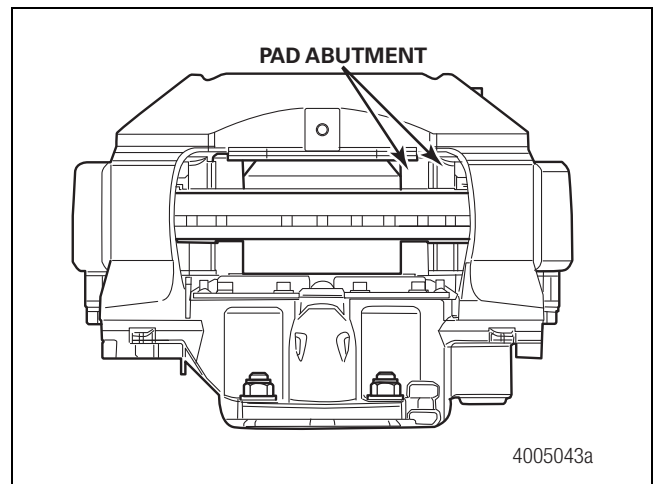

Figure 4.9
7. Inspect the carrier for signs of damage or wear. Pay particular attention to the pad abutments. Figure 4.9.